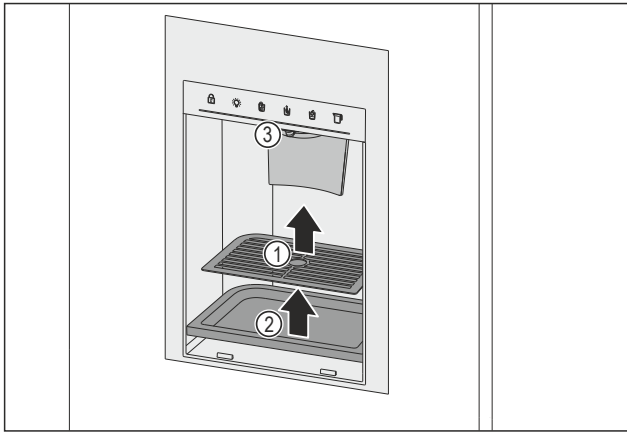

Fig. 156 Removal of drip grid and drip tray
- Remove the drip grid Fig. 156 (1).
- Remove the drip tray Fig. 156 (2).
- Clean the outlet Fig. 156 (3) and surrounding area with a soft, clean cloth, lukewarm water and a little rinsing liquid.